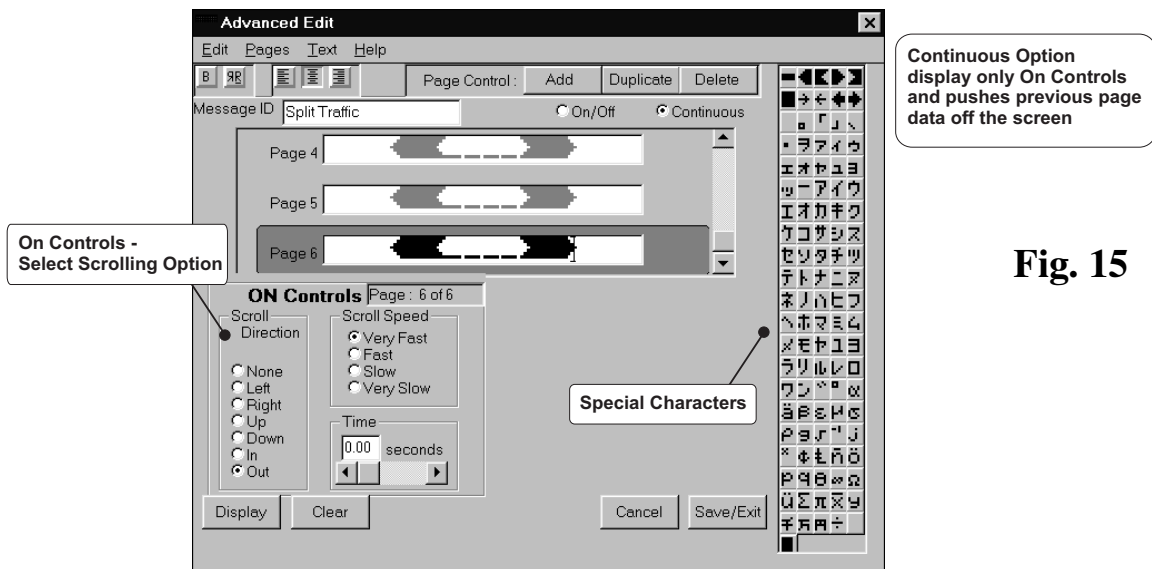

Fig. 15
12. Repeat this step for Pages 5 & 6. The Messenger Editor screen should look like this: (Fig. 15)